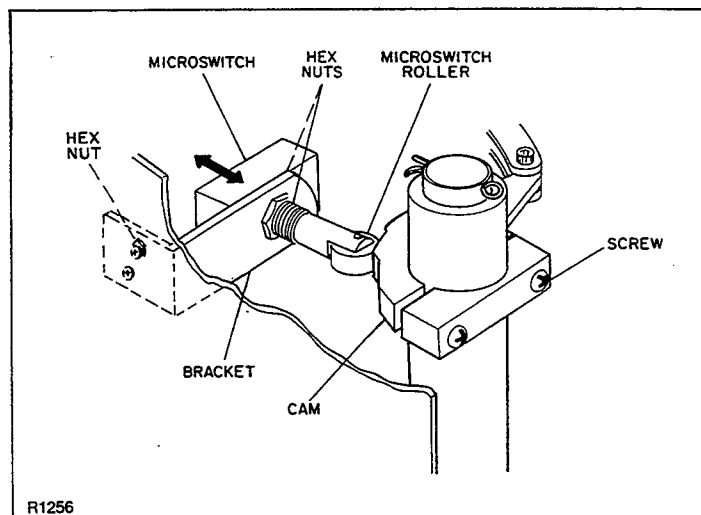

Figure 3-23. Dead-Man Switch Adjustment
3-32. Dead-Man Switch Adjustment. (Figure 3-23)
4. To adjust the cam position on the shaft, loosen the two screws (figure 3-23) so the cam can be rotated.